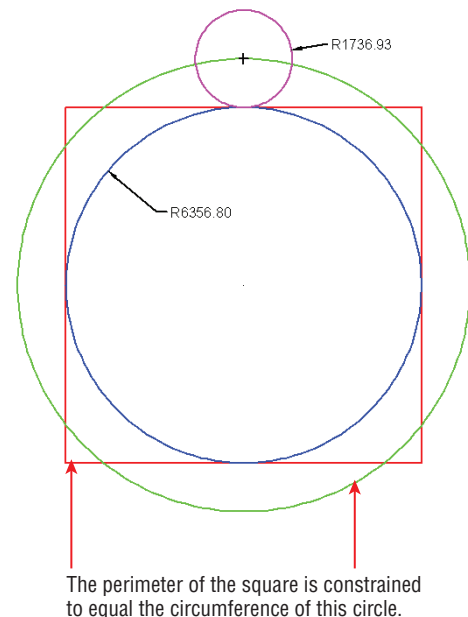

FIGURE 12.14 Dimensioning two radii in the squaring the circle diagram
9. Press the spacebar to repeat the DIMRADIUS (Dimension Radius) command. Select the magenta circle, and click a point outside the circle to locate the dimension object. Figure 12.14 shows the result.